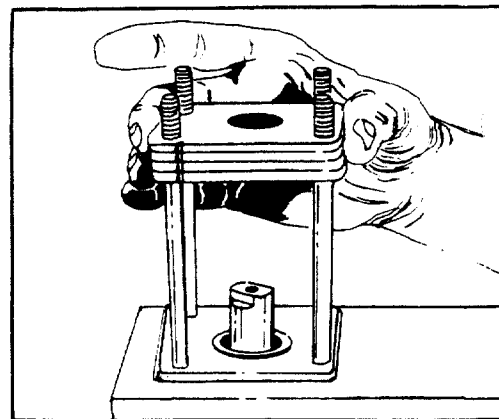

FIGURE 51.
7. Assemble the upper cover plate (32) over the four bolts (40) and input shaft/wheel tube (33) onto the upper cover and jacket tube assembly (37) with the highly polished surface up and the edge with the alignment groove in the same position relative to the jacket tube contact brush cover hole as noted before disassembly. See figure 51. (Reference alignment groove graphic.)